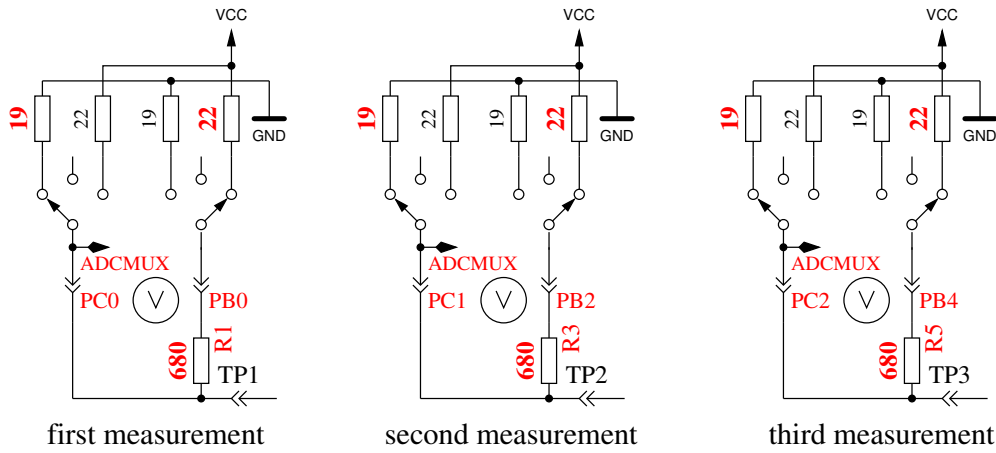

Figure 5.63. Measurement of internal resistance of Port C switched to GND
5. **This step tests the capability of GND (-) connected 470kΩ resistors (H) to pull the test pins to GND.** Row 1 shows the text “RH-”. Row 2 should display zero for all three pins.
6. **This step tests the capability of VCC (+) connected 470kΩ resistors (H) to pull the test pins to VCC (+).** Row 1 shows the text “RH+”. The results are shown als difference to VCC and should be near zero. Great differences from the best value for test 5 and 6 are errors such as isolation problem, flux material or damaged port.
8. **Measuring of internal resistance of pin output switched to the GND signal.** This test and the follwing tests will only be done, if the option AUTO_CAL is selected. The internal resistance of the port C outputs switched to GND (-) are measured with the current of to VCC (+) switched 680Ω resistors, see Figure 5.63. Only the three pins of the ADC port are measured, the resistor port B (PB0, PB2 and PB4) can not be measured without hardware modification. Is is assumed that the port resistance of the different ports are nearly identical. The resistor value will be shown in the next test.